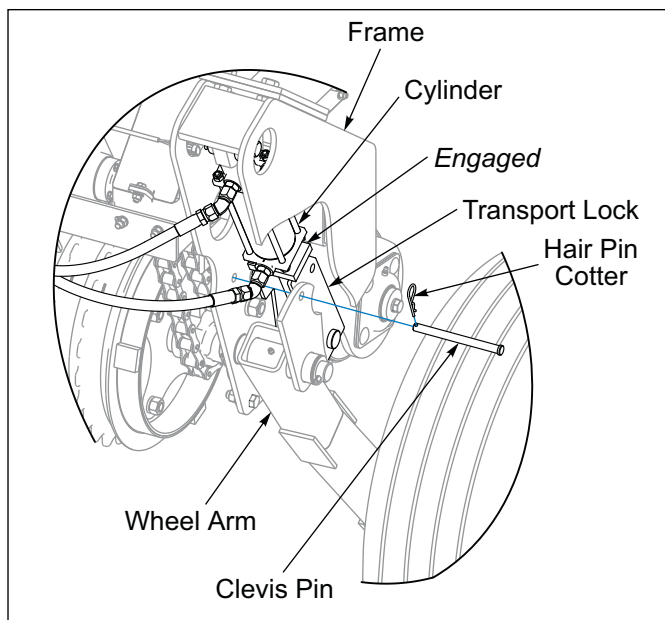

Figure 3-5: Transport Lock Engaged
4. If Transport Locks are not engaged, fully extend the Hydraulic Lift Cylinders and rotate Transport Locks in the engaged position over the Cylinder Rods. Secure with the Clevis Pins and Hairpin Cotter. **See Figure 3-5.**
2. Raise the Seeder fully to extend the Hydraulic Lift Cylinders and rotate the Transport Locks in the engaged position over the Cylinder Rod. Secure with the Clevis Pins and Hairpin Cotters. **See Figure 3-5.**
3. If not already done, raise Seeder fully to extend the Hydraulic Lift Cylinders and rotate the Transport Locks in the engaged position over the Cylinder Rod. Secure with the Clevis Pins and Hairpin Cotters. **See Figure 3-5.**
1. Raise the Seeder fully to extend the Hydraulic Lift Cylinders and rotate the Transport Locks to the engaged position. Secure with the Clevis Pins and Hairpin Cotters. **See Figure 3-5.**
6. Re-install Transport Locks. **See Figure 3-5.**